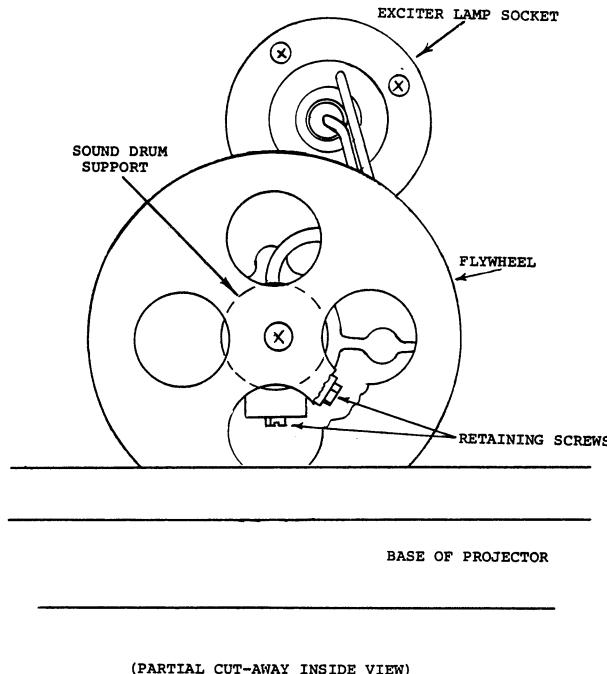

Figure 4-20. SOUND DRUM SUPPORT RETAINING SCREWS. Figure 4-22. FOCUSING SOUND OPTICS CARTRIDGE
3. Loosen Sound Drum Support Retaining Screws (Figure 4-20) and rotate Support until Photo Diode Notch of Support is centered on the Pin in end of Locating Plug Figure 4-18.